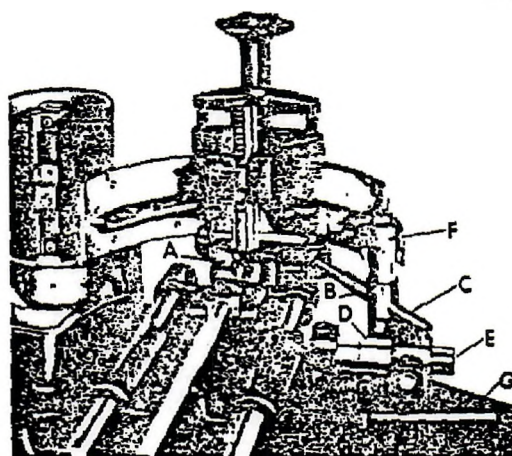

Figure 6
2. Release Slide Lock (G-Figure 6) and pull out Slide Index Pin (1-Figure 2). Move Slide Table to proper drum diameter on Drum Size Scale (2-Figure 2). Adjust Micrometer Dial (3-Figure 2) to zero setting. Seat Slide Index Pin by turning it.
C. Tighten Slide Lock (G-Figure 6) before grinding.
- A. Loosen Screw (A-Figure 6) until Shoe Clamp Assembly swivels freely and fully without contacting Screw.
- B. Select Shoe Positioning Sleeve (B-Figure 6) corresponding to the No. 8030 Specification Chart or the diameter of the drum to which the shoe is being ground. Slide it over Rod (C-Figure 6) until it contacts Stop Pin.
- C. Select the correct Gage Sleeve (D-Figure 6) from the No. 8030 Specification Chart. Slide it over Rod (E-Figure 6).
- D. Slide the Fixed Anchor Attachment (Figure 7) over Rods (C-E-Figure 6). Move the Handle (5-Figure 2) in and out until the Fixed Anchor Attachment is fully seated against the Shoe Positioning Sleeve and Gage Sleeve. Tighten Screws (1 and 2-Figure 7) firmly.
- E. Select the correct Anchor Sleeve (F-Figure 6) from the No. 8030 Specification Chart and slip it over the Anchor (3-Figure 7).
- F. Place the shoe in the Shoe Clamp as in Section 4 above, except that the shoe anchor eye must be firmly seated against the Anchor Sleeve (F-Figure 6).
When grinding a Brake Shoe with oversize lining to a near standard size drum in some instances you will find there is not enough clearance between the Shoe Clamp and Abrasive Sleeve to install the shoe. When this occurs, use the slotted end of the Shoe Positioning Sleeve (B-Figure 6). The slot should fit around the Stop Pin. Only use the slot when necessary.